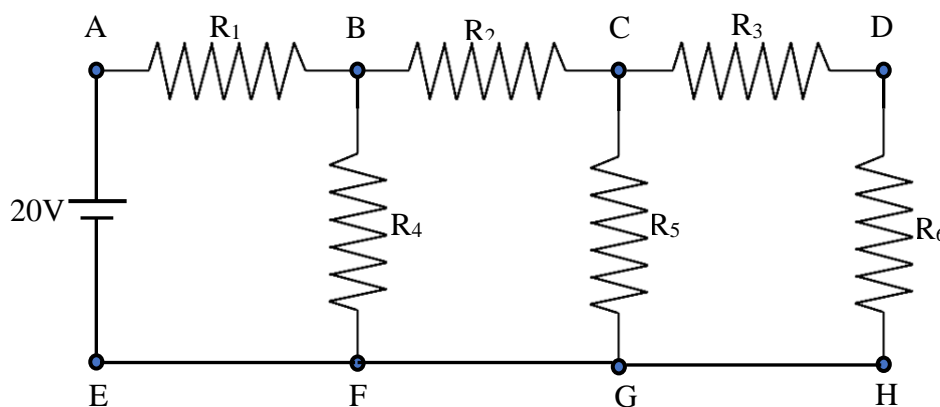

Figure 5.1: Kirchhoff's Voltage Law
2. Connect the circuit on the bread board as shown in the figure 5.1